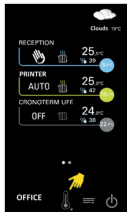
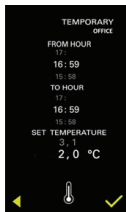

Fig.78A
Fig.78B
14.1.1 To start the operation, press  , Fig.78A. The screen appears Fig.78B and follow the settings as per chapter 7;